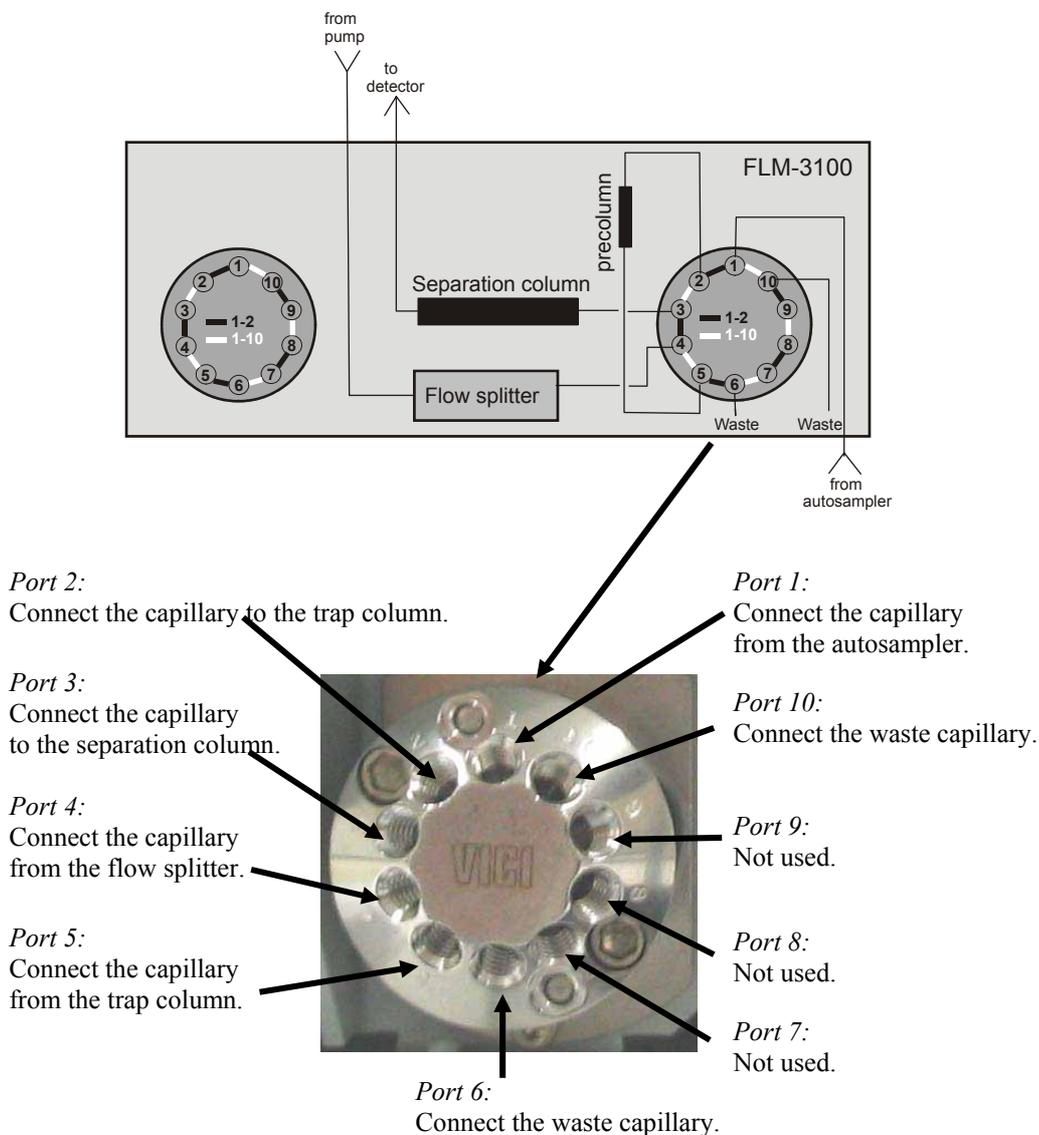

Fig. 21: Example for the connections on a 2-position/10-port column switching valve
4. Connect the capillaries, using an appropriate tool. For an example, refer to Fig. 21.
2. Insert the trap column in its holder and connect the capillaries directly to the column switching valve, e.g., to ports 2 and 5 (→ Fig. 21, page 32).
4	Capillary connector, depending on your application. (The nano (capillary or micro) flow set in Chromeleon is available here.) For the application shown in Fig. 21 (→ page 32), connect the capillary to the flow manager's right switching valve (port 4).